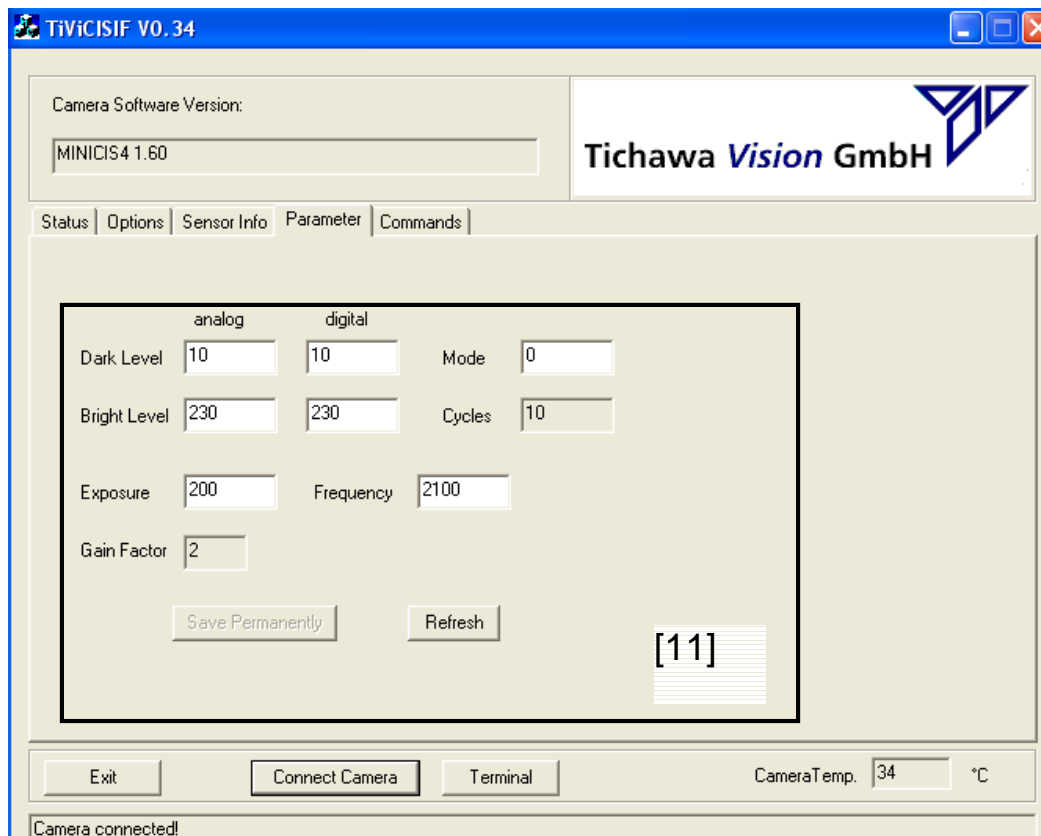

Figure 4 – Parameter
- k) In the parameter menu it's possible to set the basic parameters of the CIS. I.e. for shading correction [11] (figure 4). This parameters are explained in 3.3 of the documentation.